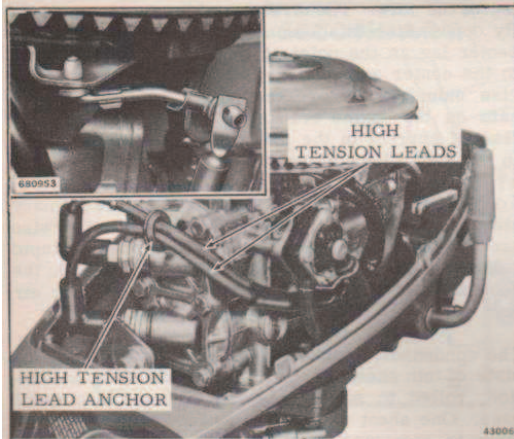

Figure 4-3. High Tension Lead Anchor and Throttle Lever Link
c. If necessary to replace the high tension leads, twist leads counterclockwise off spark plugs and remove high tension lead anchor. See Figure 4-3.
d. Disconnect throttle lever to armature link. See insert, Figure 4-3.
e. Connect armature plate link to throttle lever. See Figure 4-3.